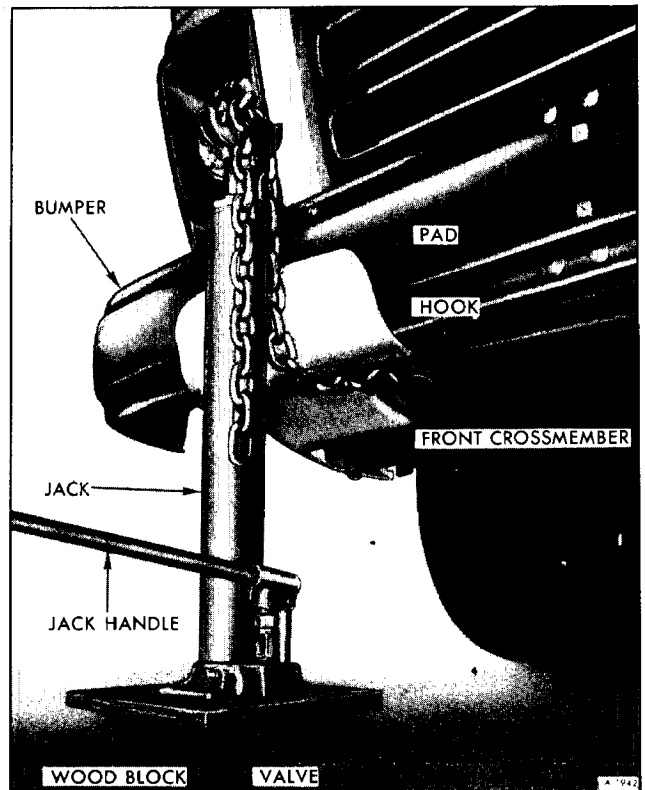

Figure 7—Jacking at Front of Motor Home
- **JACKING AT FRONT**—Place hydraulic jack on wood block near energy absorbing front bumper bracket. Place hook at flange of front cross-member. Pass chain under bumper and adjust chain length to snug fit on fork on top of jack (See figure 7).